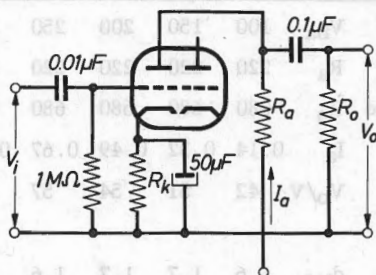

Fig.1
A.F. amplifier Fig. 1 see page 8